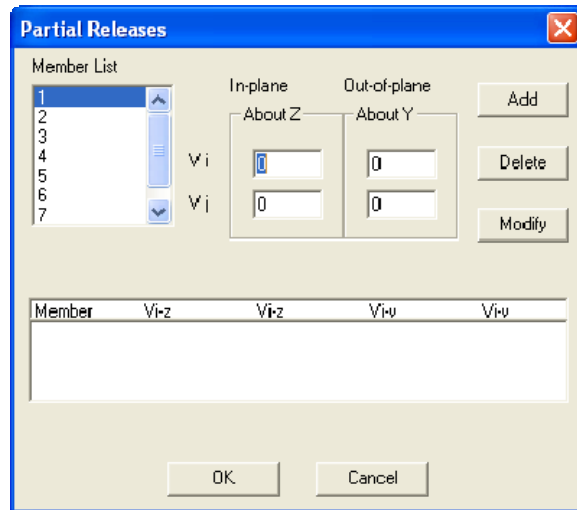

Figure 3-26 Partial Releases dialog box
- From the Process menu, select Partial Releases. The dialog box of Figure 3-26 appears. Some options may not be available depending on the structure type selected.